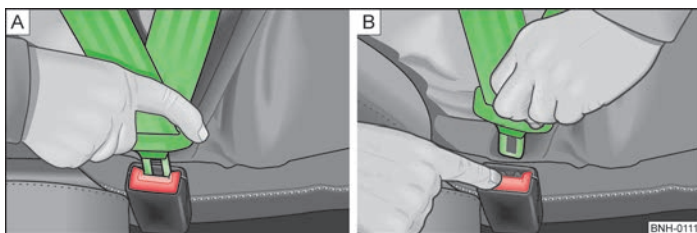

Fig. 99 Fastening/unfastening the seat belt
- Insert the lock tongue into the belt buckle » Fig. 99 - [A] that is part of the seat until it clicks into place.
- Press the red button in the belt buckle » Fig. 99 - [B], the lock tongue pops out.